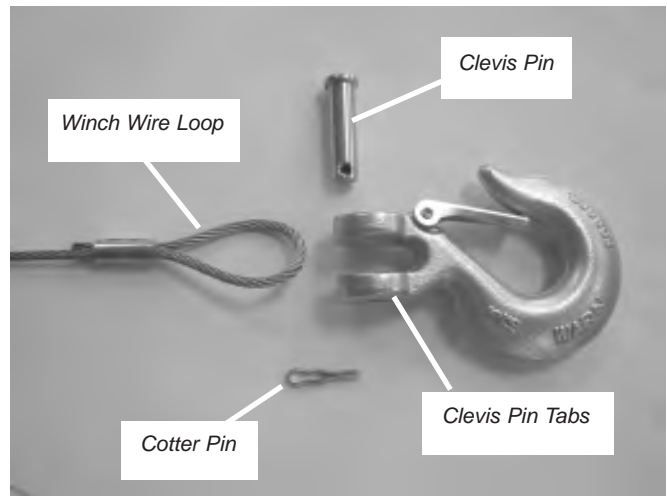

Figure 22 Hook Assembly - Exploded View
22. Switch the winch clutch to freespool. Manually feed the winch cable through the roller fairlead. Attach the clevis hook, supplied with the winch, to the end cable loop as shown in figure 23. This is done by placing the winch wire loop between clevis pin tabs on hook. Insert clevis pin through clevis pin tabs and the winch wire loop. Insert cotter pin into clevis pin retaining hole, figure 22 and figure 23.